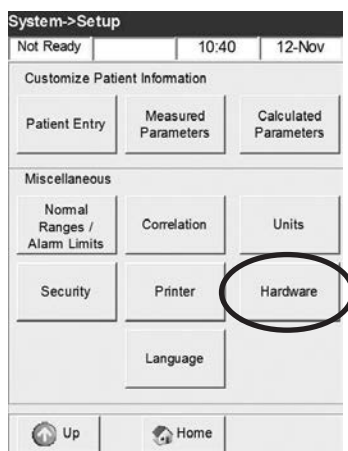

Fig. 3-30 Select Hardware
2. In the **<System Setup>** menu, press **<Hardware>** to select this function (Fig. 3-30).